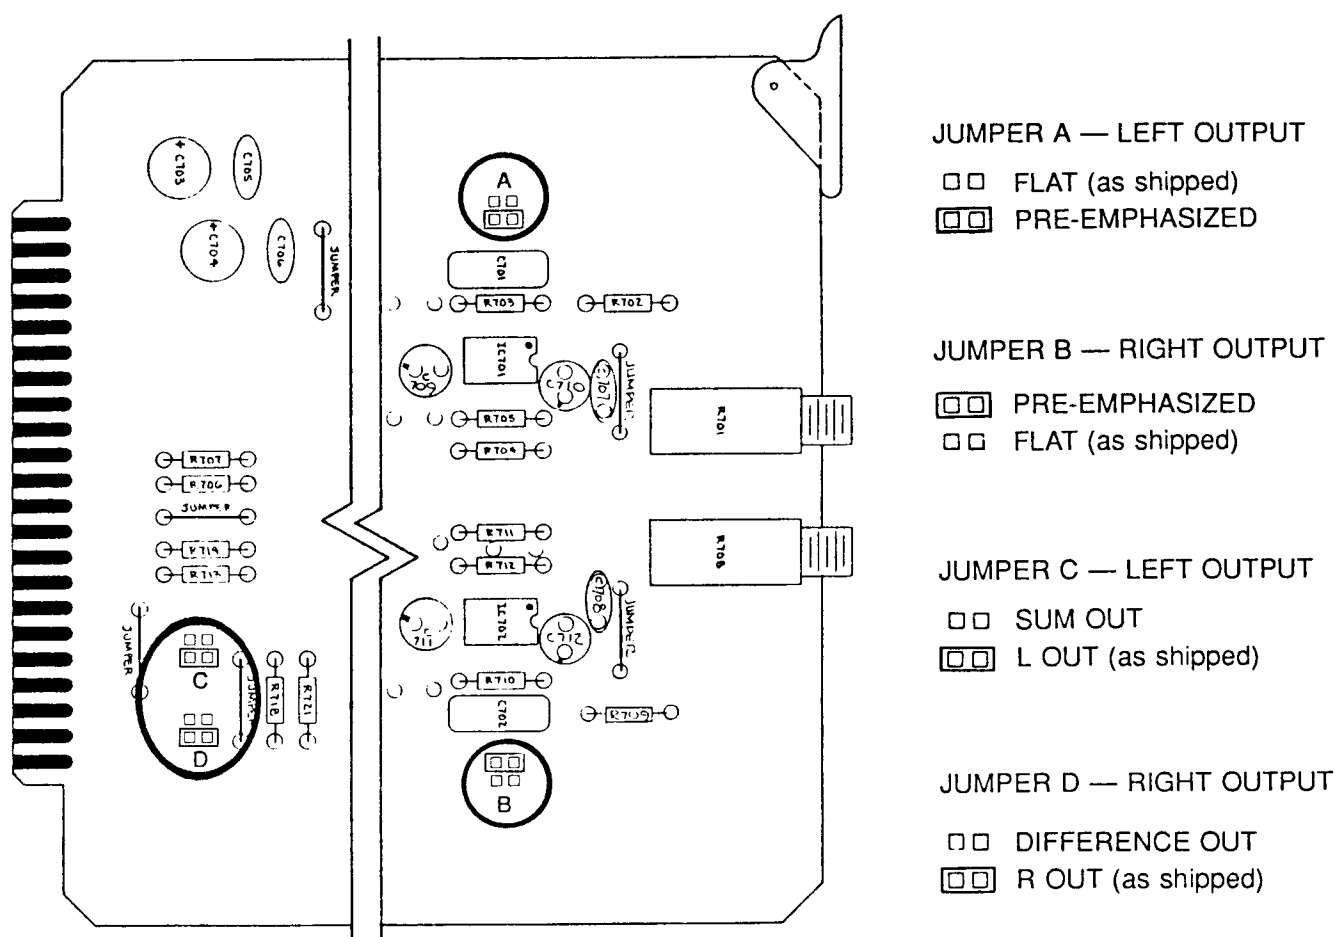

Fig. 2-6: Jumper Positions, 8182A Audio Processor Card #7
- A** ☐ On the 8182A Audio Processor's Card #7, reposition jumpers A, B, C, and D as shown in Fig. 2-6.